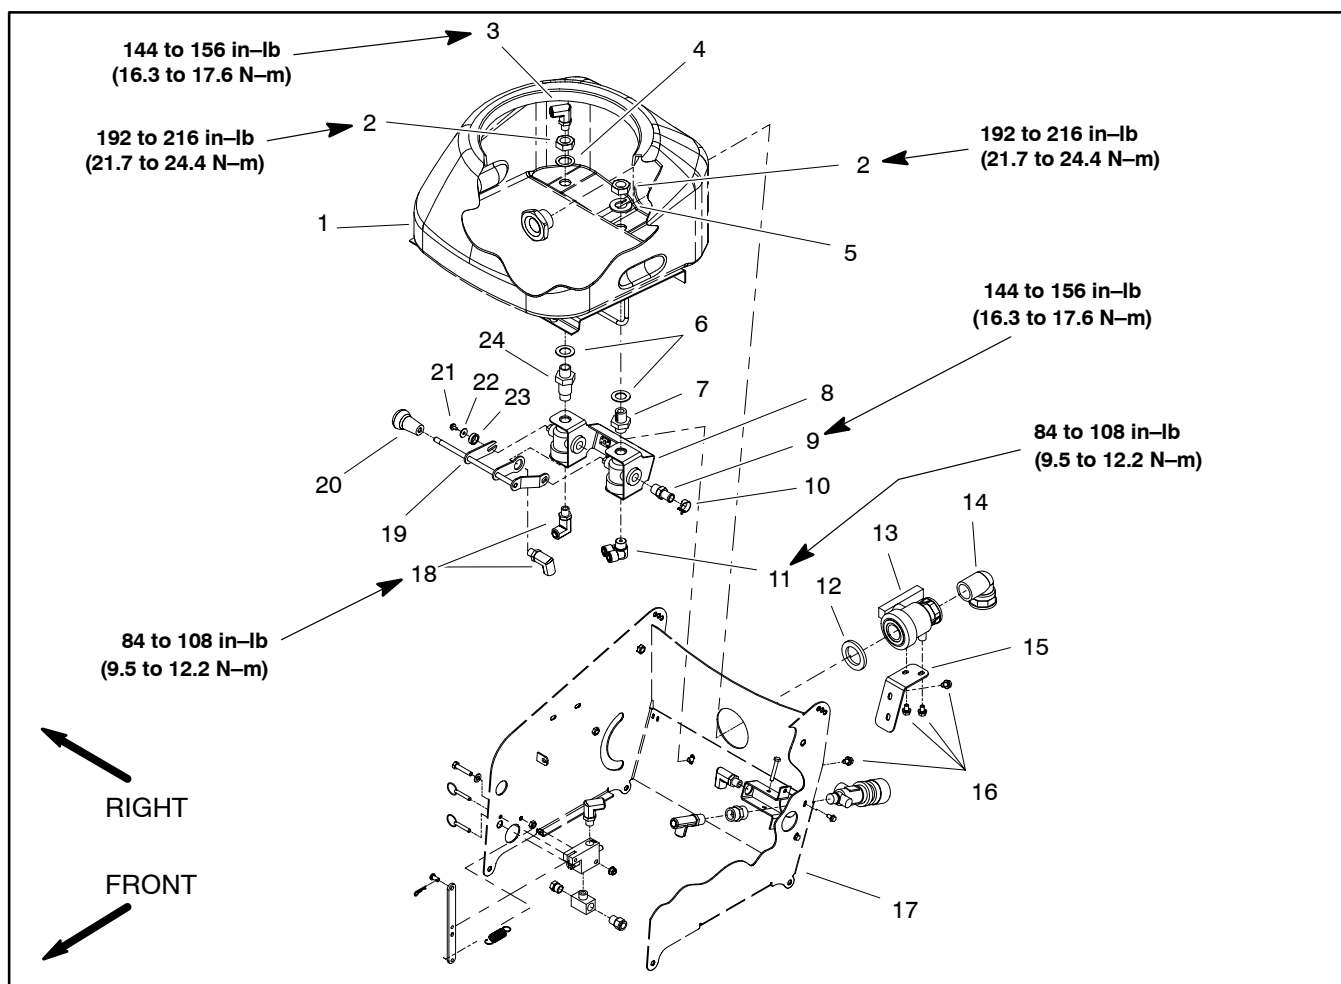

Figure 25
### Removal (Fig. 25)
### Installation (Fig. 25)
C. Torque remaining fittings to value identified in Fig. 25.
4. Place new rubber washers (item 6) on ball valve ports. Position ball valve assembly to machine.
5. Install two (2) flange screws (item 16) that secure ball valve assembly to tank support but do not fully tighten.
6. Install washers (items 4 and 5), jam nuts (item 2) and elbow fitting (item 3) that secure ball valve fittings to paint tank. Tighten jam nuts. Torque elbow fitting from 144 to 156 in-lb (16.3 to 17.6 N-m).
7. Tighten two (2) flange screws (item 16).